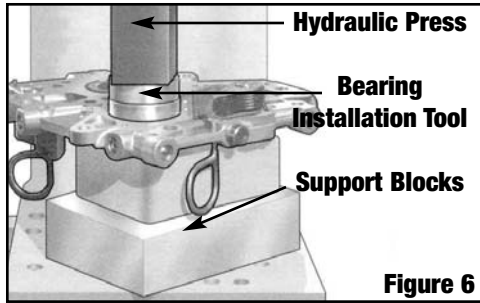

Figure 6
18. Using the the Camshaft/Bearing Remover and Installer and proper support blocks (**See Figure 6**), press the new cam bearings into the cam support plate. (**Note: Make sure the front cam bearing is installed letter-side up, facing the cam. Warming the support plate, and freezing the bearings can reduce the force needed to press the bearings into the support plate.**) You will now be able to slip the rear bearing o-ring over the rear cam. Slide the thrust washer over the cam and over the o-ring to center the washer over the cam. Now carefully press the rear bearing race onto the rear cam, centering it over the thrust washer.